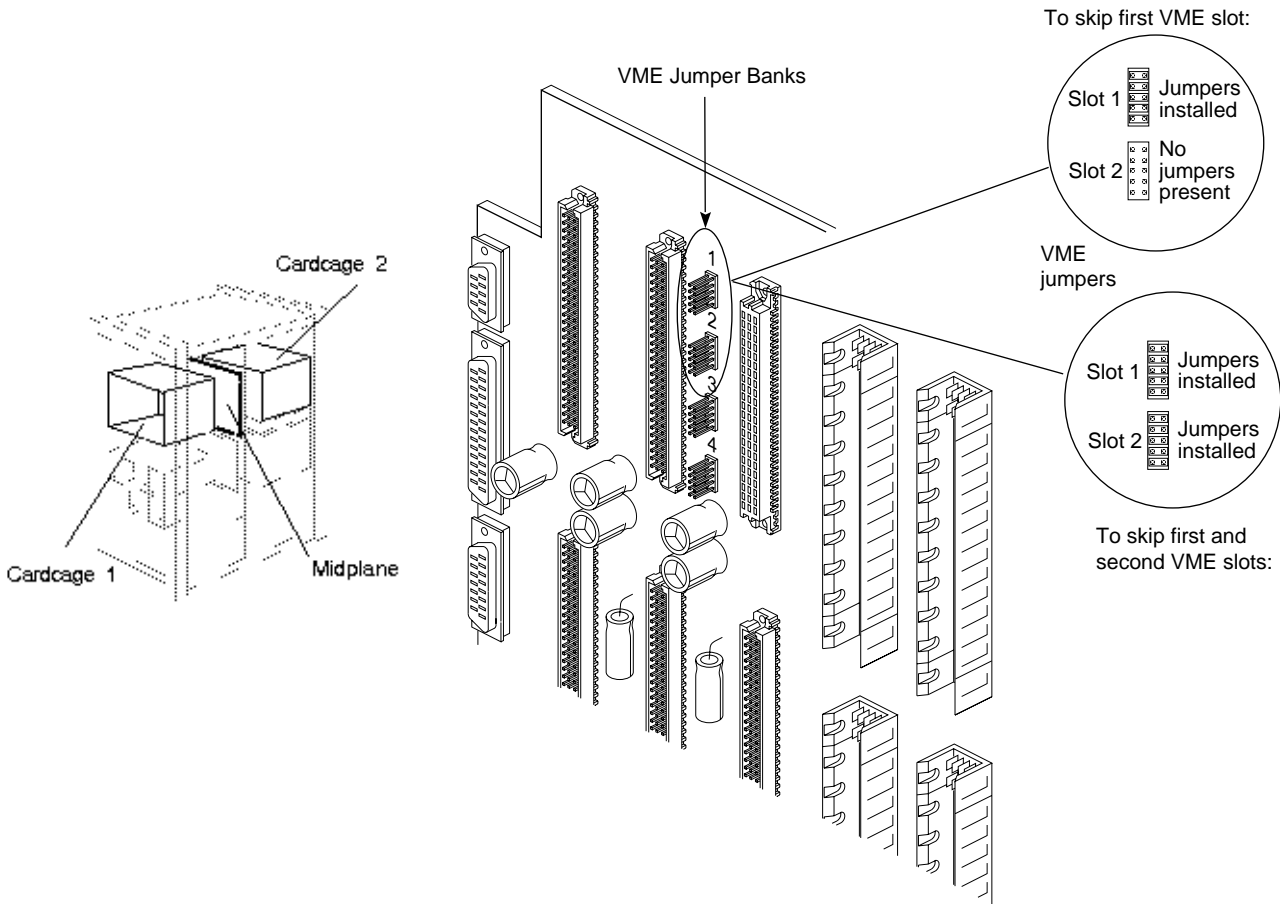

Figure E-9 VMEbus Midplane Jumpers
The general guideline is to have jumpers in the jumper banks correspond to the VME slot number that you are skipping (see Table E-10). For example, if you are skipping VME slot 17, you need to insert five jumpers into jumper bank 1 (see Figure E-9).
- If you are skipping the first two VME slot and wish to use the third VME slot, you must place jumpers in jumper banks 1 and 2 (see Figure E-9).